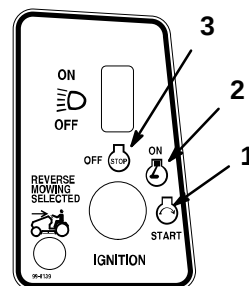

Figure 9
6. Turn the ignition key clockwise and hold it in the “START” position (Fig. 9). When the engine starts, release the key.
2. Turn the ignition key to "OFF" (Fig. 9).